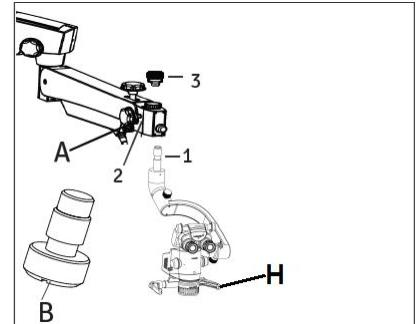

Fig. 39
4. Retrieve the inclined coupler with magnichanger from the packing and follow as below referring Fig.39.
- Install the coupling to the suspension arm by sliding the guiding shaft (1) into the suspension arm.
- Lock the inclined coupling with the threaded plug (3).
- Ensure magnichanger handles (H) have silicone covers.
**CAUTION:** Make sure that safety screw (B) must tight in place at position (2) to avoid sudden falling of the coupling. Safety Screw always tied with the Carrier arm locking knob A. Fig. 39